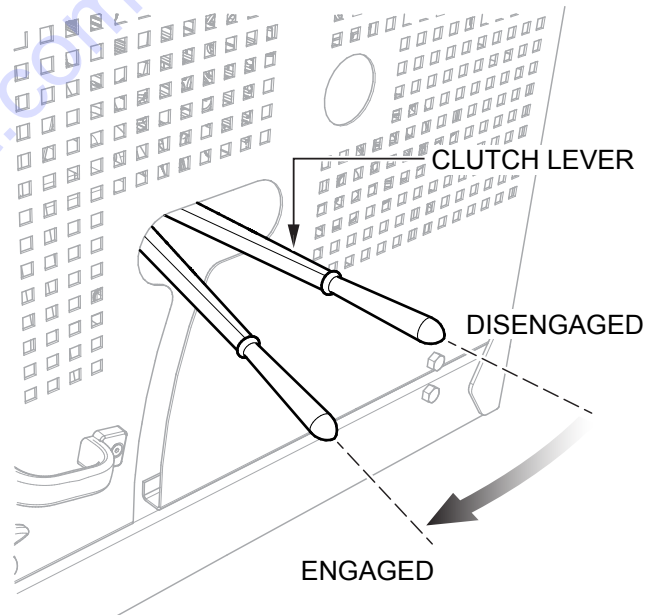

Figure 24. Clutch Engagement Lever
- Push the clutch engagement lever forward (Figure 24), toward the tow end of the mixer.